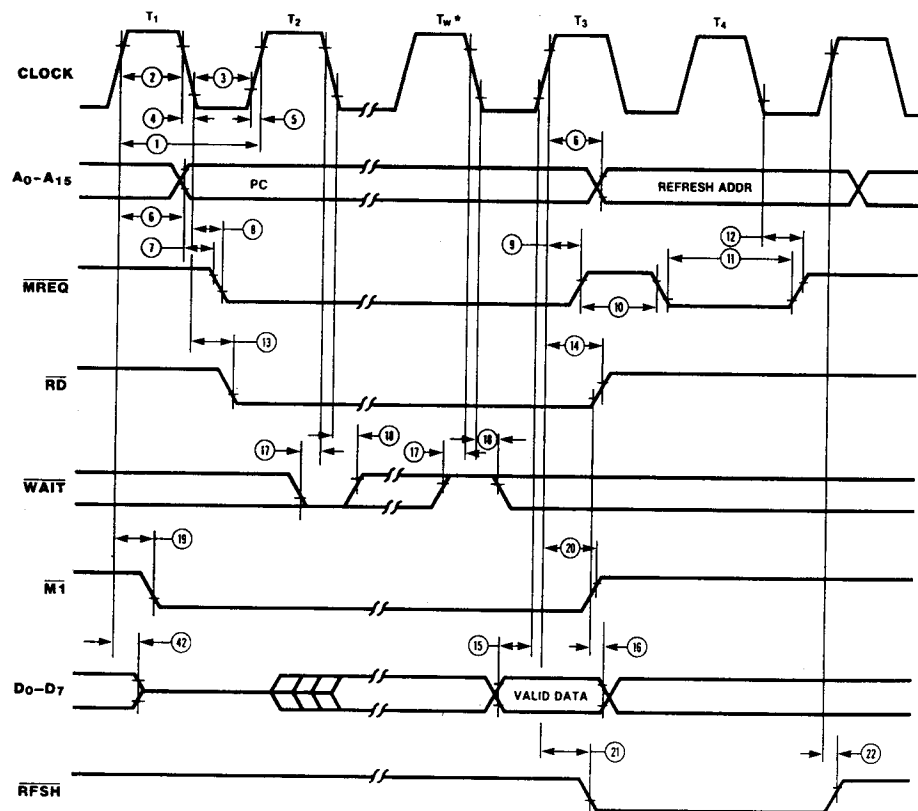

Figure 5. Instruction Opcode Fetch
Instruction Opcode Fetch. The CPU places the contents of the Program Counter (PC) on the address bus at the start of the cycle (Figure 5). Approximately one-half clock cycle later, \overline{MREQ} goes active. When active, \overline{RD} indicates that the memory data can be enabled onto the CPU data bus.